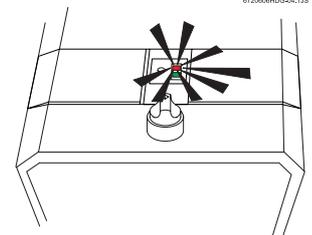

Figure 9
2. The gas valve must be shut off by putting the ON/OFF switch to position "  ". Wait five (5) minutes to clear out any gas. If you smell gas, STOP! Follow "B" in the safety information above. If you do not smell gas, go to the next step.
4. Set the ON/OFF switch to the "  " position. In this position, the water heater is ready to use. (See Figure 9).
The On/Off switch is located behind the flipdown cover plate on the front panel strip. See fig. 9.